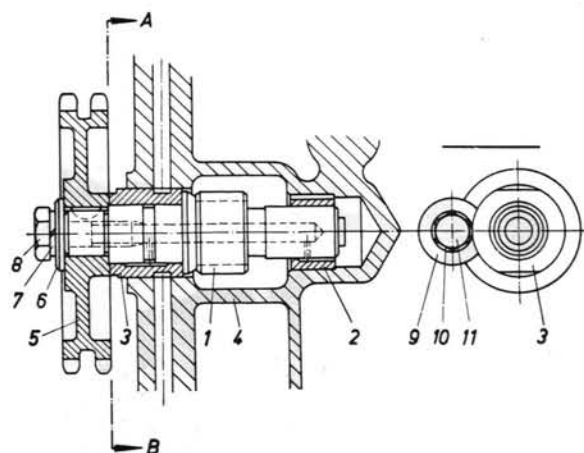

Fig. 05-4/8
6. Use depth gauge and chain alignment gauge 110 589 07 23 00 to check alignment of sprocket wheels on crankshaft and intermediate shaft. Fig. 05-4/11 and 05-4/12. Max. deviation of all sprocket wheels 0.1 mm.